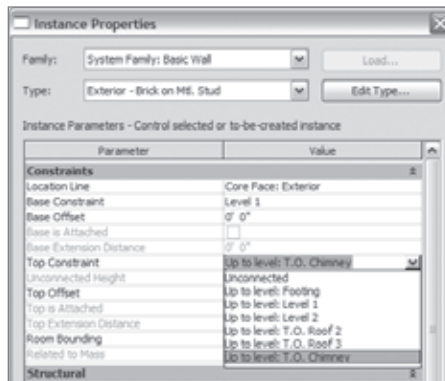

Figure 4.33
8. Change the top constraint parameter to T.O. Chimney, as shown in Figure 4.33. Click OK to commit the change.